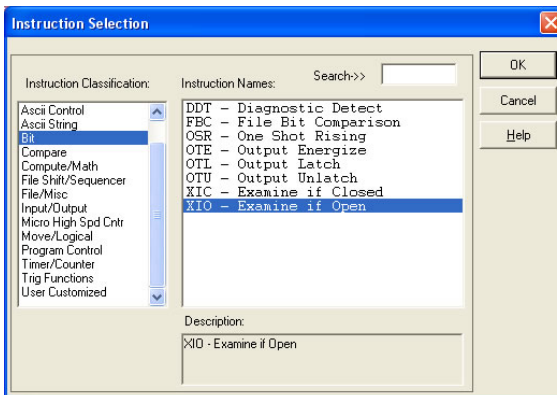

Figure 119: XIO Instruction Selection
b) Select the "XIO" instruction from the "Bit" classification, then click OK. Refer to Figure 119.